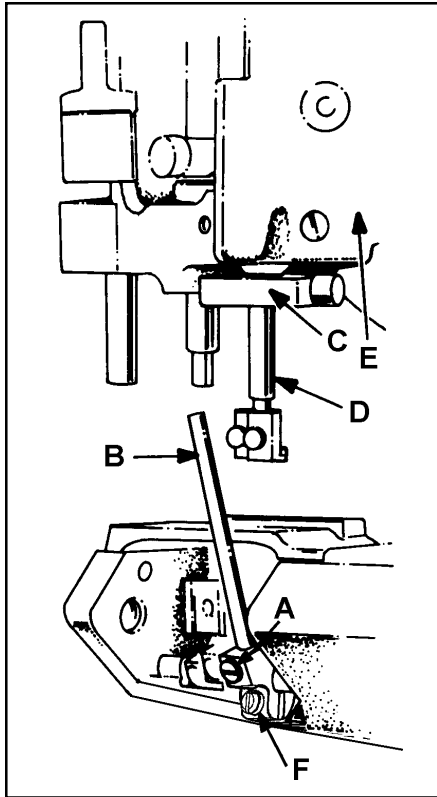
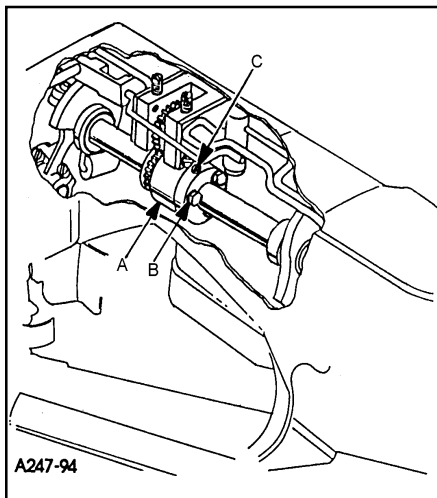

FIG. 2
FIG. 3
To synchronize the machine, remove the needles, presser foot, throat plate, feed dogs and upper feed roller mechanism. Rotate handwheel in the operating direction until the needle bar is at the bottom of its stroke and just begins its upward travel. Loosen screw (A, Fig. 2) and remove the looper for the left hand needle from the looper holder. Insert a straight steel rod (B) $\frac{5}{32}$ " (3.9mm) or $\frac{11}{64}$ " (4.3mm) diameter by 2- $\frac{1}{2}$ " (63.5mm) long into looper holder and retighten screw (A). Rotate the handwheel until the rod (B) is at the extreme left and reinstall the throat plate. Loosen screw (F) in looper holder and move the holder left or right until the right side of the rod is approximately $\frac{5}{32}$ " (4.0mm) from the left edge of the throat plate, tighten screw (F). Turn the handwheel in the operating direction, with needle bar rising until rod (B) comes in contact with the edge of the throat plate. At this point, clamp Union Special timing gauge No. TT147 (C) around the needle bar (D), flush against the underside of the machine casting (E). Rotate handwheel in the opposite direction until either the gauge contacts the machine casting on the up stroke of the needle bar or the rod contacts the edge of the throat plate. Maximum allowable clearance between gauge and casting or rod and throat plate is .005" (0.1mm)
Both ends of the adjustable split coupling are secured to the crankshaft and main shaft by spot screws and set screws. On the main shaft end of the coupling (A, Fig. 3) three screws (B) thread horizontally through the coupling. The holes in the main shaft end of the coupling are larger than the diameter of the screws, permitting several degrees of rotation in either direction to properly synchronize the needle and looper. Loosen the three horizontal clamp screws (B, Fig. 3). With rod (B, Fig. 2) at its farthest position to the left, snug the uppermost horizontal clamp screw enough to hold coupling (A, Fig. 3) in position. If the handwheel is turned in reverse of operating direction and gauge (C, Fig. 2) on needle bar (D) contacts the machine casting (E) before rod (B) contacts the edge of the throat plate, loosen horizontal clamp screw (B, Fig. 3) which was snug, while holding the coupling in place with an Allen wrench in set screw (C). Rotate the handwheel slightly in reverse of operating direction, snug the uppermost horizontal clamp screw (B), recheck synchronization. If the handwheel is turned in reverse of operating direction and the rod contacts the edge of the throat plate before the clamp gauge contacts the machine casting, adjust as before, except turn the handwheel slightly in the operating direction. Use shim stock to insure no more than .005" (0.1mm) exists between gauge and casting or between rod and throat plate, in both the operating and reverse directions of the handwheel. When this setting has been made, tighten the three horizontal clamp screws (B, Fig. 3) securely, and recheck both clearance points with .005" (0.1mm) shim gauge to assure no slippage occurred while tightening the screws.